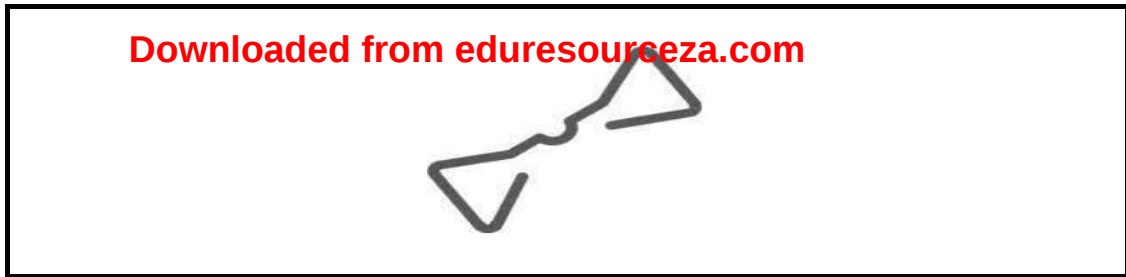

FIGURE 5.5
- 5.5 Identify the type of wall tie in FIGURE 5.5.